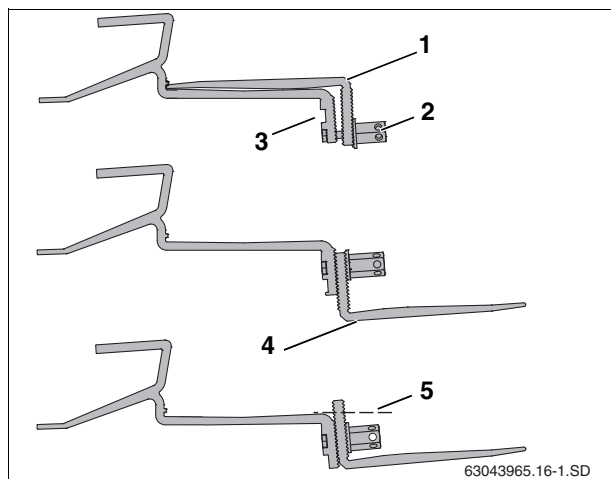

Fig. 12 Adjusting the roof hook
- Loosen the long hex-nut (Fig. 12, [2]) and disassemble the unit.
- Insert bolt into upper hole (Fig. 12, [3]).
- Reassemble with the L-shaped piece (Fig. 12, [4]) facing away and down.
- Do not tighten the nut (Fig. 12, [2]) until the hook is installed and properly adjusted.